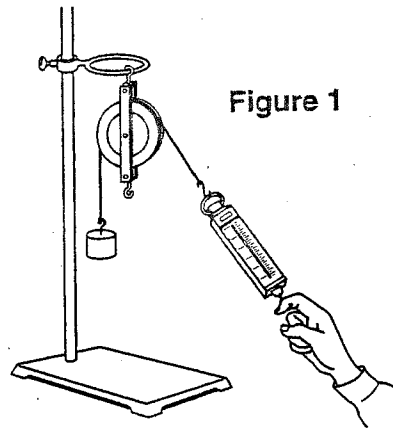
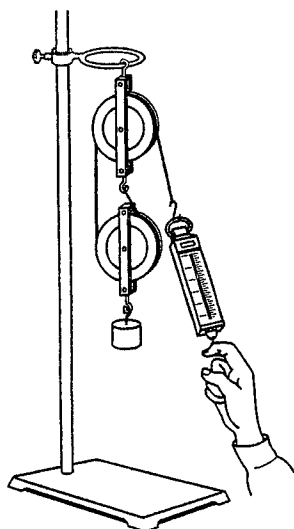
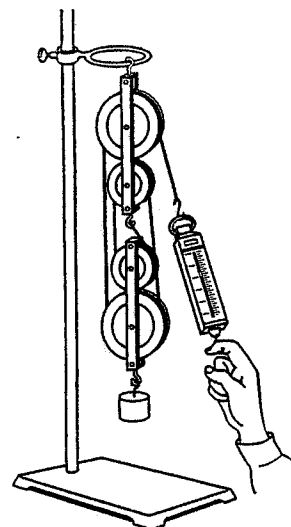

Figure 1
Figure 3
Figure 5
3. Set up a single fixed pulley as shown in Figure 1. Pull down on the spring scale to lift the mass. The reading on the scale shows the amount of input force needed to lift the mass. Record this number in the Data Table.
5. Set up the single fixed and single movable pulley system shown in Figure 3. Measure the amount of force needed to lift the mass and record it in the Data Table.
2. To determine the ideal mechanical advantage of a pulley or pulley system without calculations, count the number of sections of rope that support the weight. The end section, which is attached to the spring scale, counts as a supporting section *only when pulled upward*. Using figures 1 through 5, determine the number of supporting rope sections for each type of pulley.
- a. Figure 1: _____ c. Figure 3: _____ e. Figure 5: _____